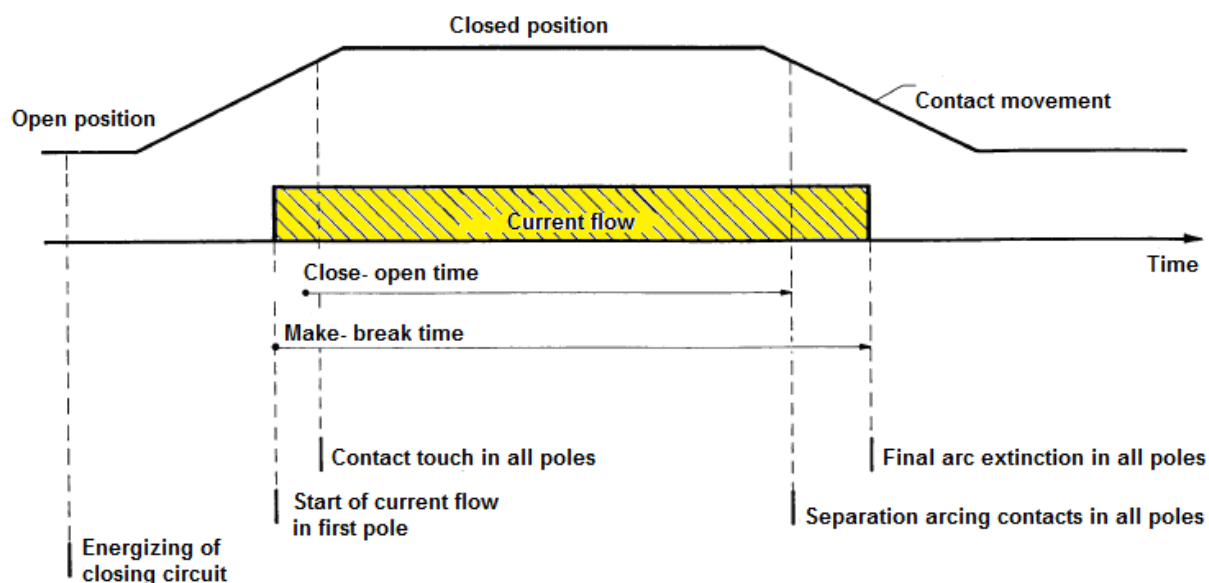

Figure 1. C-O (Trip free) operation
Close-open (measured during test) should be distinguished from the make-break time (measured when a CB is under load), as illustrated in the Figure 1. According to the IEC standard make-break time is:
*“Interval of time between the initiation of current flow in the first pole during a closing operation and the end of the arcing time during the subsequent opening operation (Figure 1).”*